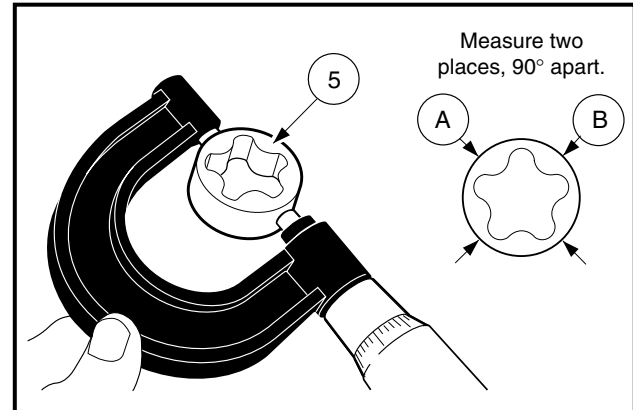

Figure 13-69 Measure Outer Rotor O.D.
- 4.2. Using a micrometer, measure the diameter of the outer rotor at several points (**Figure 13-69, Page 13-34**).